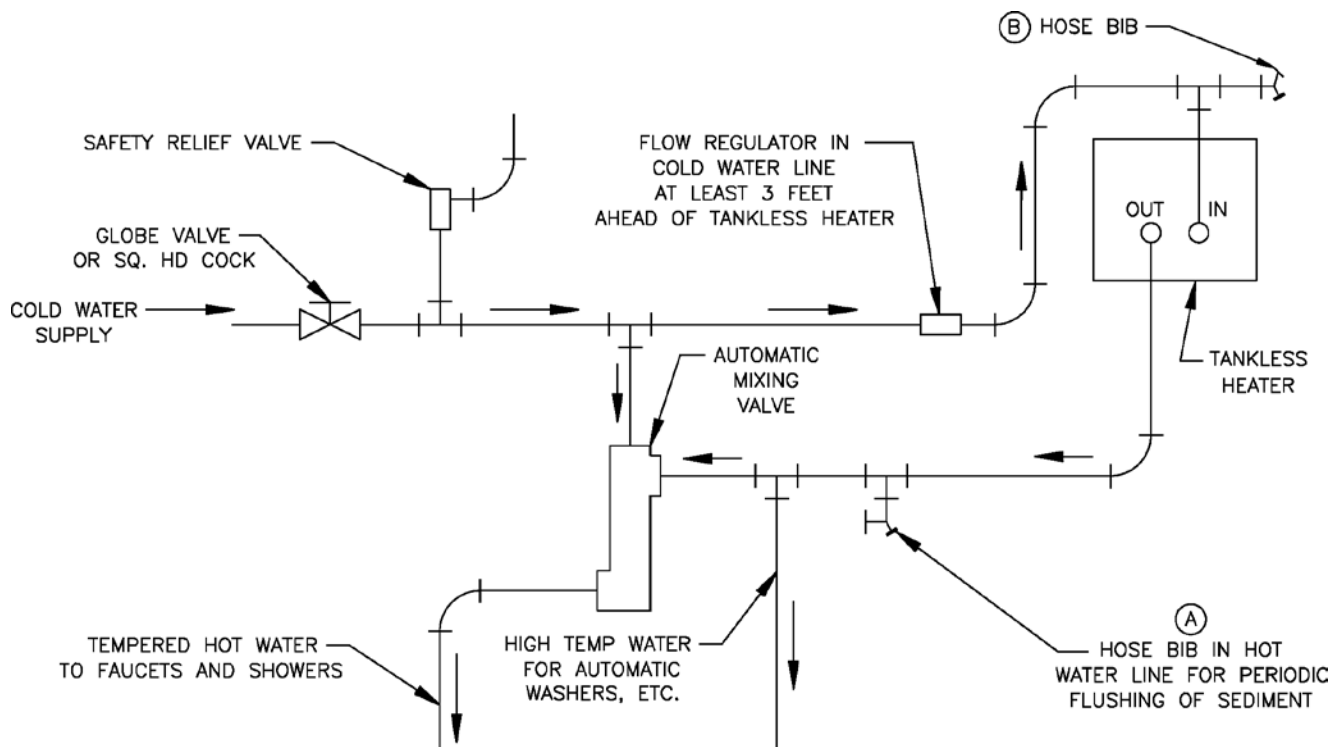

Figure 8: Schematic Tankless Heater Piping
F. CONNECT TANKLESS HEATER PIPING AS SHOWN IN FIGURE 8.